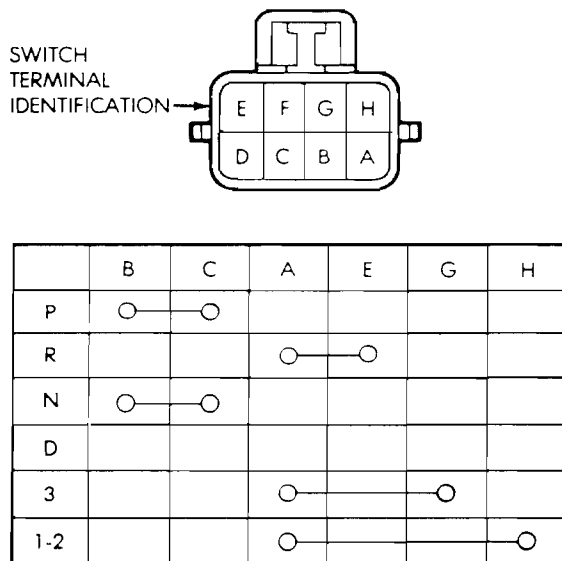

Fig. 3 Neutral Switch Terminals And Testing
Test switch continuity with an ohmmeter. Disconnect the switch and check continuity at the connector terminal positions and in the gear ranges indicated in Figure 3. Switch continuity should be as follows:
- Continuity should exist between terminals B and C with the transmission in Park and Neutral only (Fig. 3).
- Continuity should exist between terminals A and E with the transmission in Reverse (Fig. 3).
- Continuity should exist between terminals A and G with the the transmission in third gear (Fig. 3).
- Continuity should exist between terminals A and H with the transmission in first and/or second gear (Fig. 3).